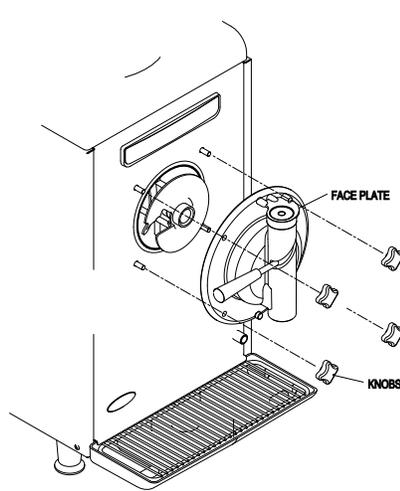

Figure 25.
7	Center the Faceplate with the Auger Bearing and push it into position on the four mounting studs, as shown in Figure 25 and replace the four (4) faceplate Hand Nuts . Make sure they are tightened in a cross pattern (upper left, lower right, upper right then lower left.).